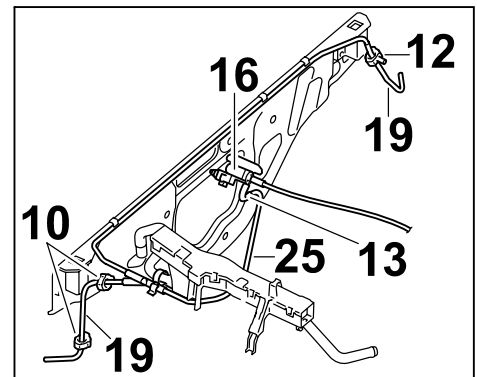

Figure 21
- 6.4.3 Slide the vacuum line (230 mm) ⇒ *Figure 21 -25-* into the bent protective tube ⇒ *Figure 21 -13-* and connect the protective tube to the side connection on the change-over valve ⇒ *Figure 21 -16-*.
- 6.4.4 Position the steel flexi-pipes ⇒ *Figure 21 -19-* in the holder ⇒ *Figure 21 -10, 12-* and close the holder.